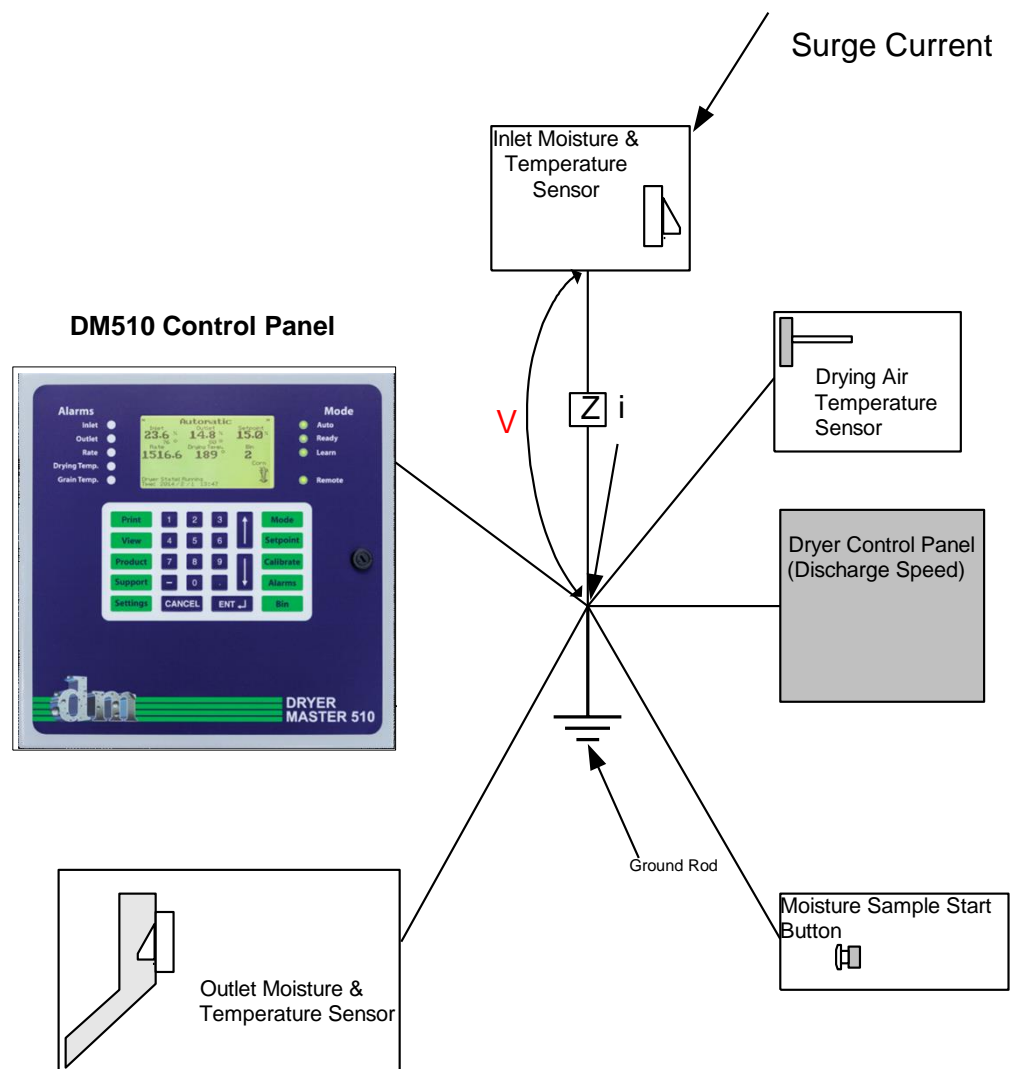

Figure 24 - Effects of surge current in a Star Point ground system
The purpose of any ground system is to keep all connected equipment at the same ground potential. Figure 24 - Effects of surge current in a Star Point ground system illustrates the effect of a surge event in one of the connected devices. The current flow (i) induces a voltage across the ground conductor (V) between the device and the star connection. This voltage potential will be impressed on all devices connected to the star but will be small in magnitude in a well-designed system. A larger voltage will be seen on the conductor between the star connection and the earth ground connection but will have little consequence on the connected equipment as each device will see an equal rise in ground potential. This limits current conduction through sensitive equipment due to differences in ground potential.